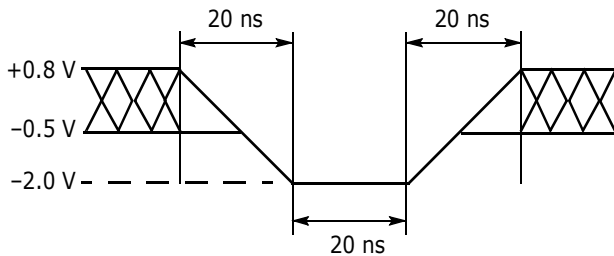
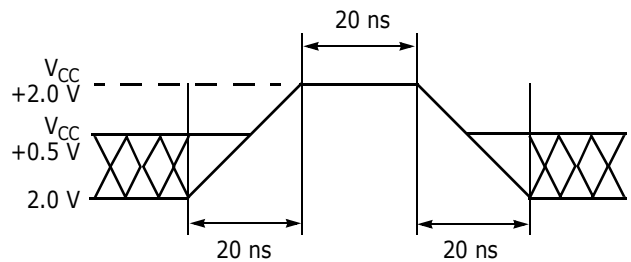

Figure 9. Maximum Negative Overshoot Waveform
Figure 10. Maximum Positive Overshoot Waveform
1. Minimum DC voltage on input or I/O pins is -0.5 V. During voltage transitions, input or I/O pins may overshoot V_{SS} to -2.0 V for periods of up to 20 ns. See Figure 9. Maximum DC voltage on input or I/O pins is $V_{CC} + 0.5$ V. During voltage transitions, input or I/O pins may overshoot to $V_{CC} + 2.0$ V for periods up to 20 ns. See Figure 10.
2. Minimum DC input voltage on pins A9, OE#, and RESET# is -0.5 V. During voltage transitions, A9, OE#, and RESET# may overshoot V_{SS} to -2.0 V for periods of up to 20 ns. See Figure 9. Maximum DC input voltage on pin A9 is +12.5 V which may overshoot to 14.0 V for periods up to 20 ns.